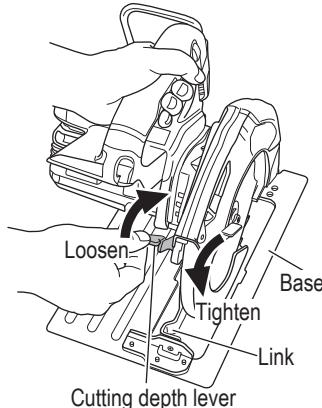

Fig. 19
1. Adjusting the cutting depth (Fig. 19)
2. Check if the levers are tightened (Fig. 19, 20)